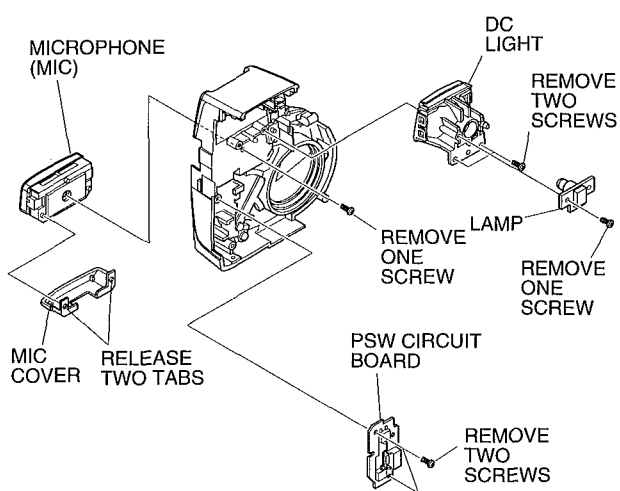

Fig. 2-7
2.6 Microphone (MIC), DC Light, Lamp, PSWCircuit Board (Fig. 2-7)